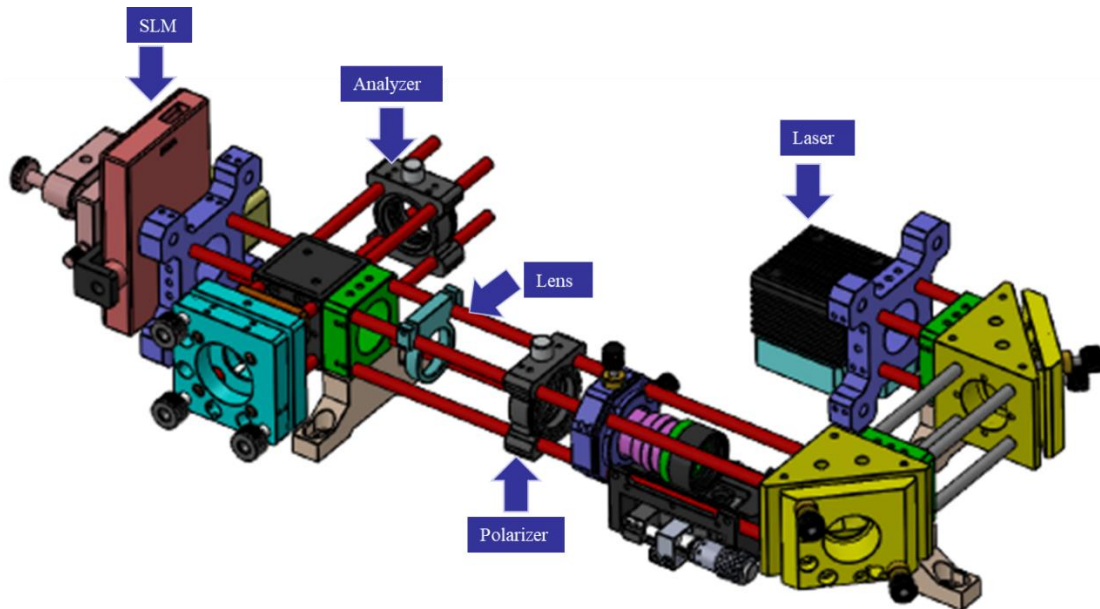

Figure 3
1. Remove the cross target and install the analyzer as shown in Figure 3.